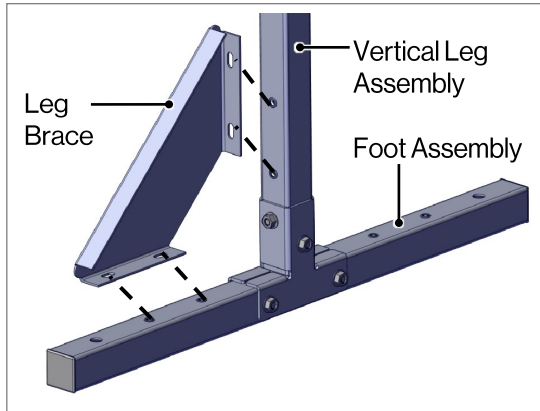

Fig. 6
- Attach one Leg Brace to the Vertical Leg Assembly/Foot Assembly with four (4) Hex Bolts (Fig 6). Repeat this step on the other side.